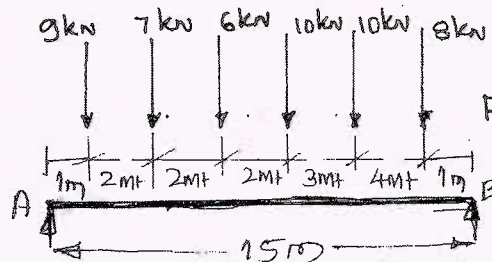

Fig.Q.9(b)
b. Determine the maximum bending moment at a section 5mt from the left support as shown in Fig.Q.9(b). (10 Marks)